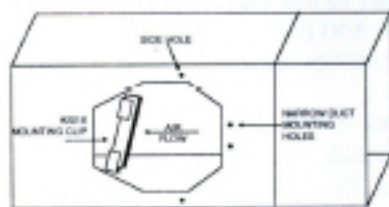

Fig. 1
7. Slide the mounting clip onto the edge opening (Fig.1)